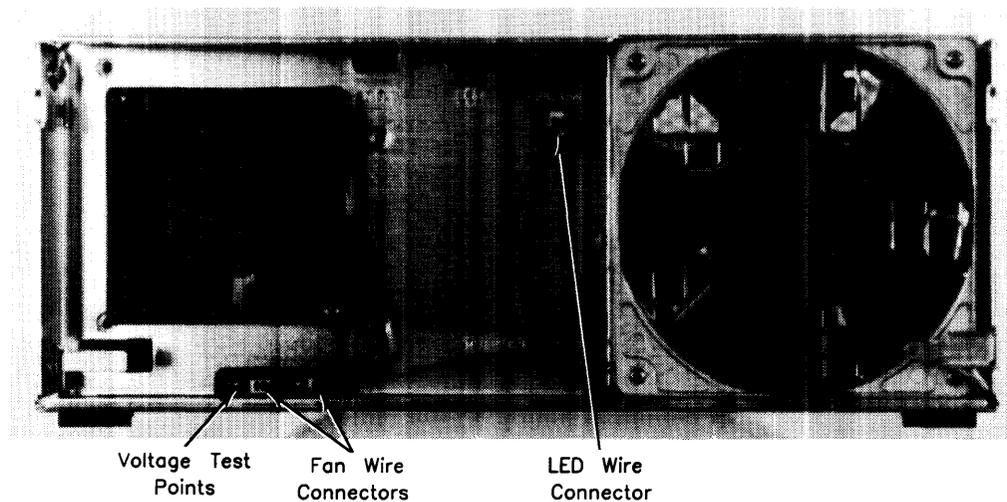

Figure 2-11. Fan Wire Connectors
1. Using needlenose pliers, disconnect the fan wire connector from its pins on the motherboard. Refer to Figure 2-11.